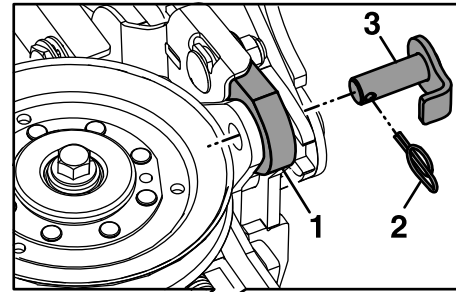

Figure 84
11. Remove and retain the locking cotter pins and cylinder pins that attach to the rod end of the deck-fold cylinders and wing decks (Figure 84).